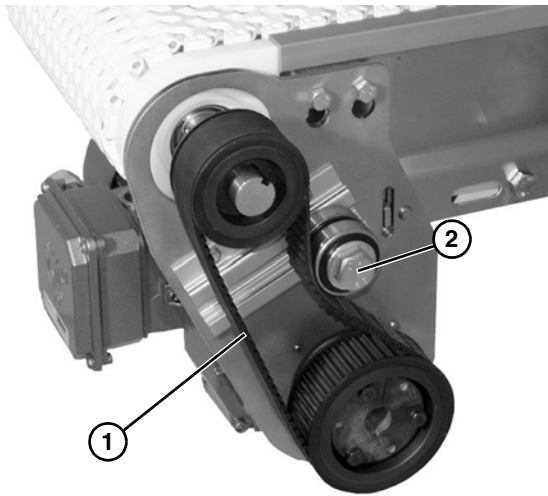

Figure 9
9. Tension timing belt to obtain 1/8" (3 mm) deflection for 6 lb (3 Kg) of force at timing belt mid-point (**Figure 9, item 1**). Tighten tensioner screw (**Figure 9, item 2**) to 110 in-lb (12 Nm).